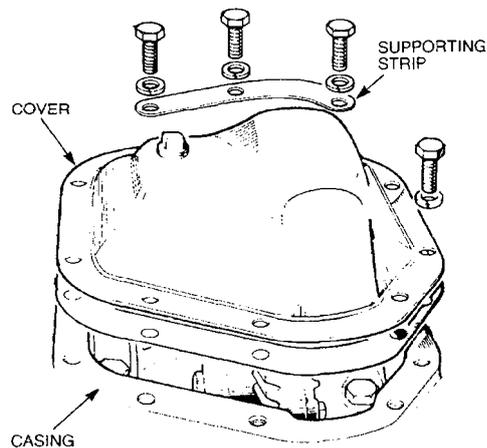

Figure 204 Removing the Differential Cover
- d. Remove the bolts, lock-washers and support strip retaining the differential cover. Remove the cover and the gasket (Figure 204). Discard the lock-washers and the gasket.